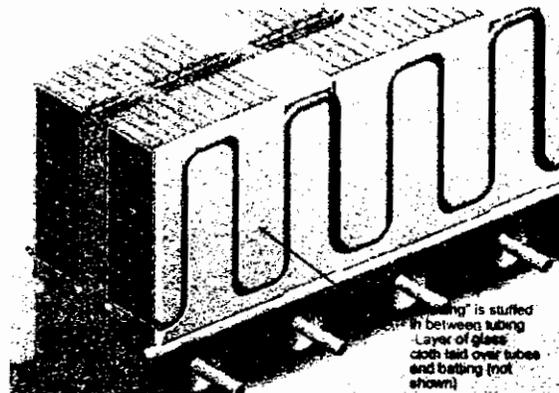

Figure 21- Bag Mold Preparation-2
- 6.33.4 Install glass or felt batting between the cooling tubes in all areas except where the final coil clamps will be placed. (Figure 21- Bag Mold Preparation-2). The depth of the batting shall equal the diameter of the cooling tubes.